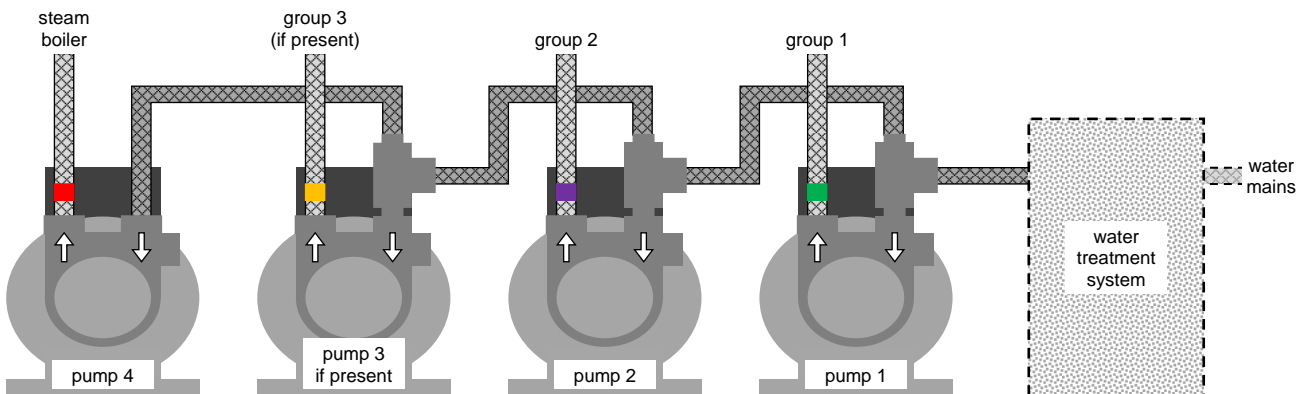

Figure 11. Set-up for pump-per-group machines. In a Duette there is no 3rd group and PUMP 3 in the above scheme is not present.
Figure 10 and Figure 11 show schematically how to connect the hoses and pumps to the different versions of the machine. Described below is the standard lay-out for machines with 2 pumps.
4. Attach the other ends of the long high pressure hoses to the outlet of an individual pump (3/8M connections, see Figure 10 and Figure 11). No need for gaskets.
5. "Loop" the pump(s) with short hose(s) as shown on Figure 10 and Figure 11.